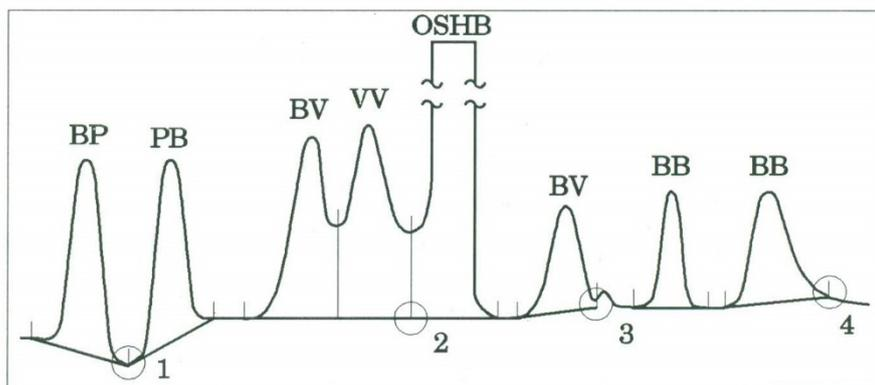

Figure 6: Modified baseline construction
- If a peak penetrates the baseline (BP and PB), the baseline also goes through the lowest point on the peak, see 1, in figure 6.
- If a peak ends in an apparent valley but the following peak is below area reject, as you have set it, the baseline is projected from the beginning of the peak to the next true baseline point, see 3, in figure 6. If a peak starts in a similar way, the same rule applies.
- To improve handling of tailing peaks, the time the peak exceeds upslope and downslope criteria is noted and one quarter of that time is added at the end of this peak before the end of the peak is confirmed, see 4, in figure 6.